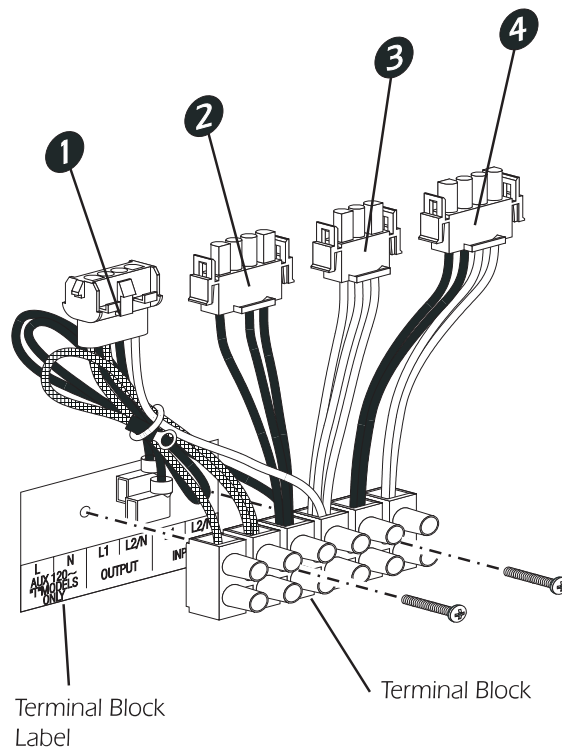

Figure 5-4 Location of Wiring Harness Mounting Screws
IMPORTANT: When the wire harness assembly is installed into the UPS, the plug-type connectors should be positioned at the top and the terminal block should be positioned at the bottom. (Refer to Figure 5-4)
3. Position the screws through the front of the wire harness assembly as shown in Figure 5-4. Position the label behind the harness so that the screws pass through the holes in the label, and it is visible as shown in Figure 5-4.
- 1. Refer to Figure 5-4 for connector numbers.*